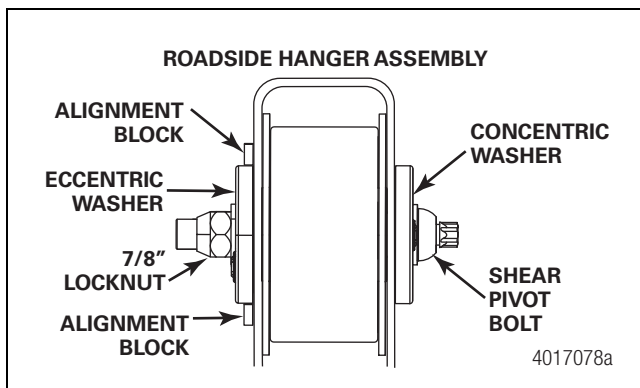

Figure 6.5
- Using a 1-5/16-inch closed- or open-ended wrench, tighten the roadside pivot nut in such a way that it still allows the eccentric washer to turn with the breaker bar. Figure 6.5.